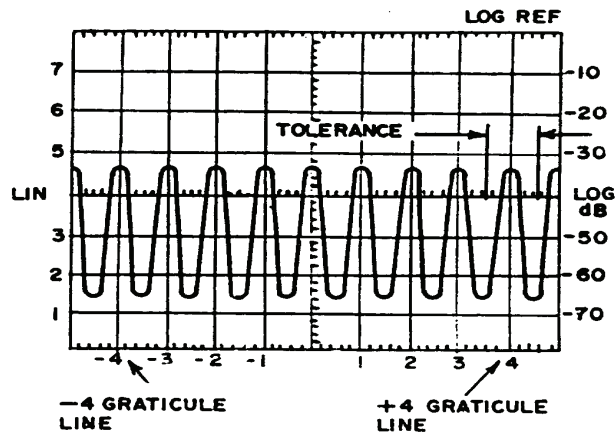

Figure 14. Scan width accuracy display.
- (2) Position IF plug-in controls as listed in (a) through (g) below:
(3) Adjust **FREQUENCY** and **FINE TUNE** controls to center a marker on the -4 **GRATICULE LINE** (fig. 14). Note that a 20 kHz marker appears at about every major division on display screen.
(4) Measure amount of error, in divisions, that marker deviates from +4 graticule line. Deviation for model 8552B is +0.24 major division and +0.40 major division for model 8552A (fig. 14).
- (5) Position TI switches as listed in (a) through (c) below:
(6) Adjust **FREQUENCY** and **FINE TUNE** controls to center a marker on -4 GRATICULE LINE.
(7) Repeat (3) above.